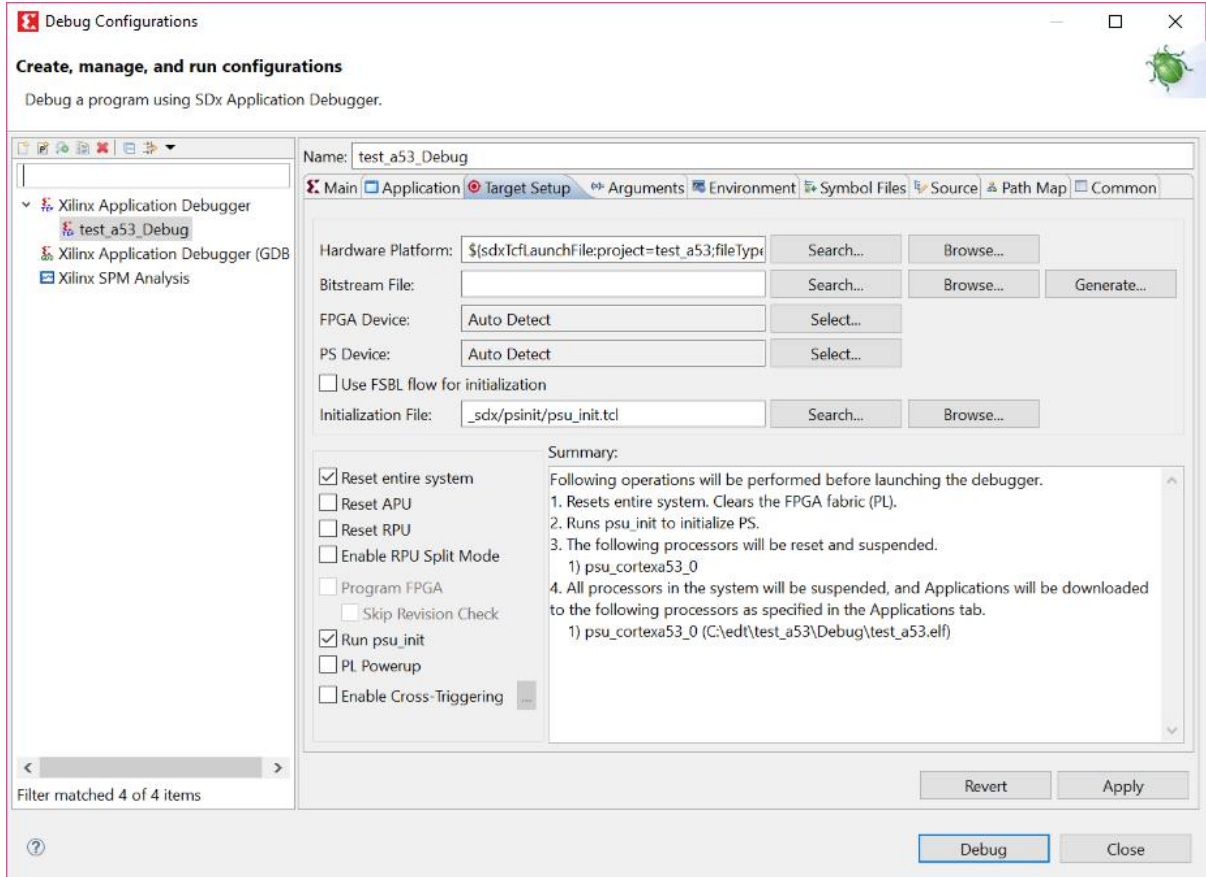

Figure 4-2: Debug Configurations
**Note:** The above step launches the Application Debugger in the Debug perspective based on the project settings. Alternatively, you can also create a Debug configuration which looks like Figure 4-2.